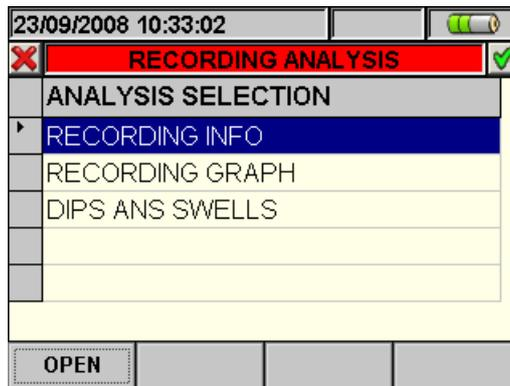

Fig. 116: Recording analysis (Reg-type data)
2. Press the **ESC** key (or the smart icon ) to exit the function and go back to the “Recording analysis” page (Fig. 116).
- The **ESC** key (or smart icon ) to exit the function and go back to the “Recording analysis” page (Fig. 116).
- The **ESC** key (or smart icon ) to exit the function and go back to the "Recording analysis" page (Fig. 116).